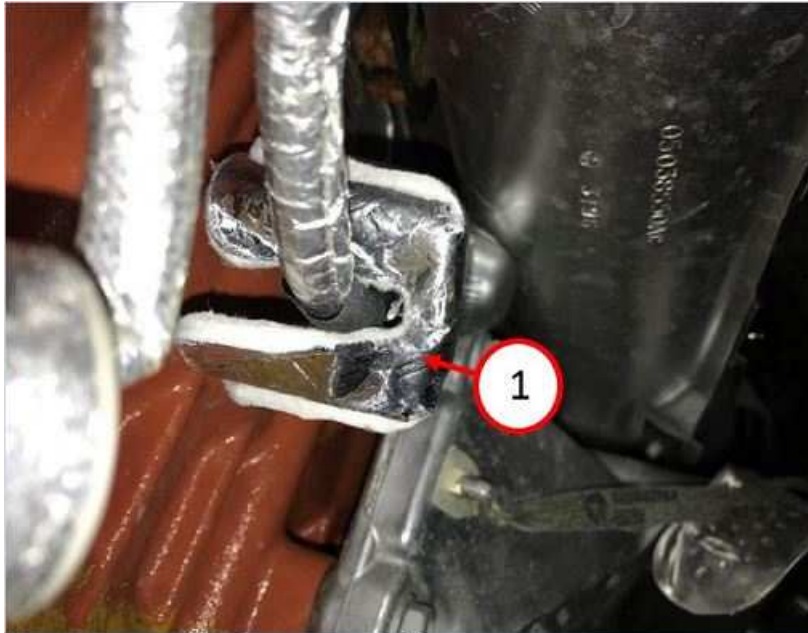

Fig. 5
6. Install the knock sensor heat shield (Fig. 5) .